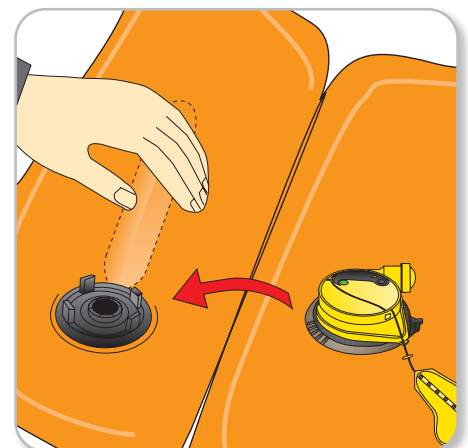

Figure 9
- 7a. Hold the gas cylinder through the fabric of the life jacket. (Figure 9)